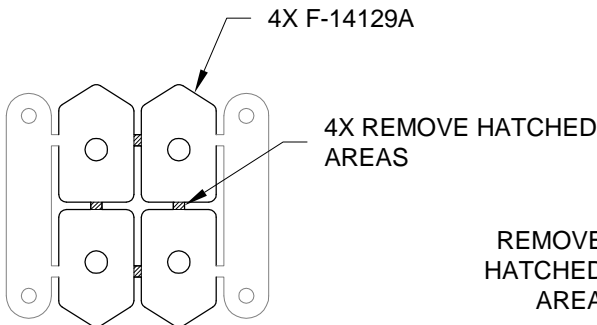

FIGURE 1: .016 GEAR SHIMS
Step 1: Locate the F-14129AB and F-14129CD Gear Shims shown in Figures 1 and 2 and separate them into individual parts by removing the hatched areas. The grayed-out parts are shown for reference only as they may have already been used in Section 10 where they were supplied.